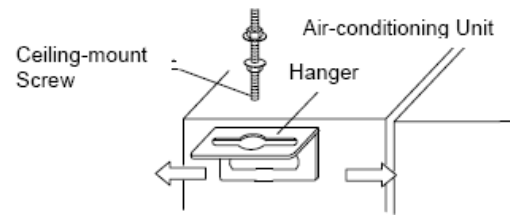

Figure 1-1-2
- 4) Install the hanger onto the indoor unit as shown in Fig.1-1-2.